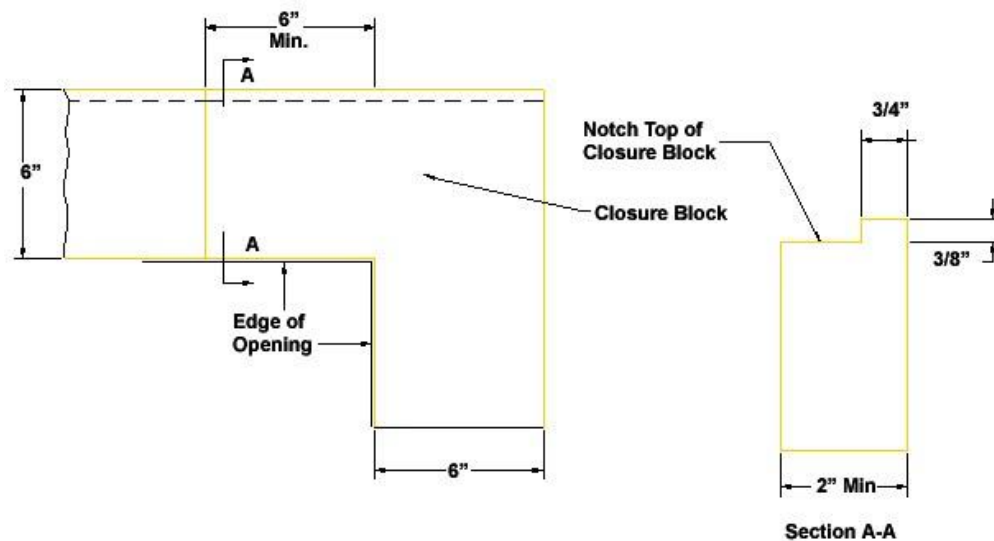

Fig. 15
- h. Offset the joints of the Closure Blocks a minimum of 6 in (152 mm) from the corner of the opening by using an L-shaped closure block at each corner as shown in Figure 15.